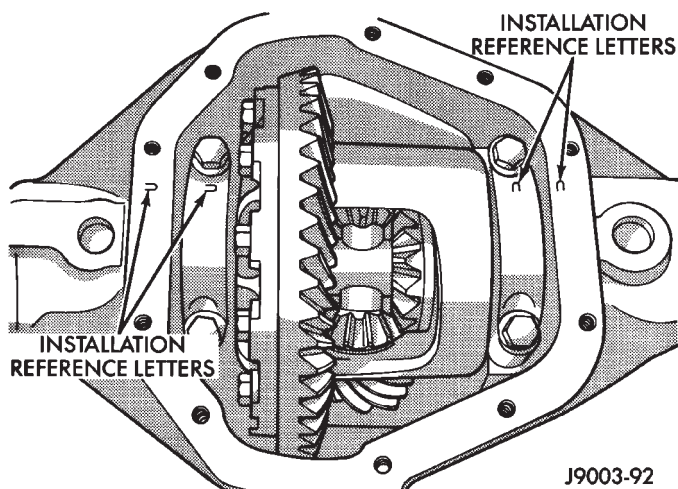

Fig. 23 Bearing Cap Identification
- (1) Raise and support vehicle.
- (2) Remove the lubricant fill hole plug from the differential housing cover.
- (3) Remove the differential housing cover and allow fluid to drain.
- (4) Remove axle shafts.
- (5) Note the installation reference letters stamped on the bearing caps and housing machined sealing surface (Fig. 23).